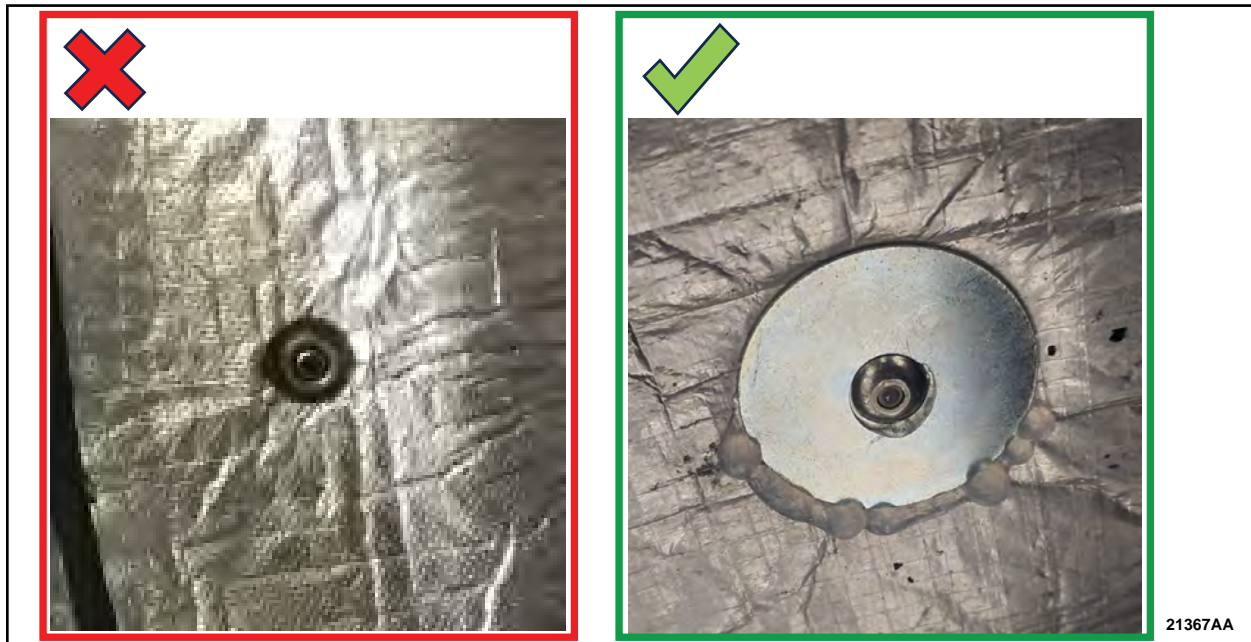

FIGURE 15
15. Using a 1/4" rivet gun, install the rivet and washer to the drilled hole. See Figure 15.